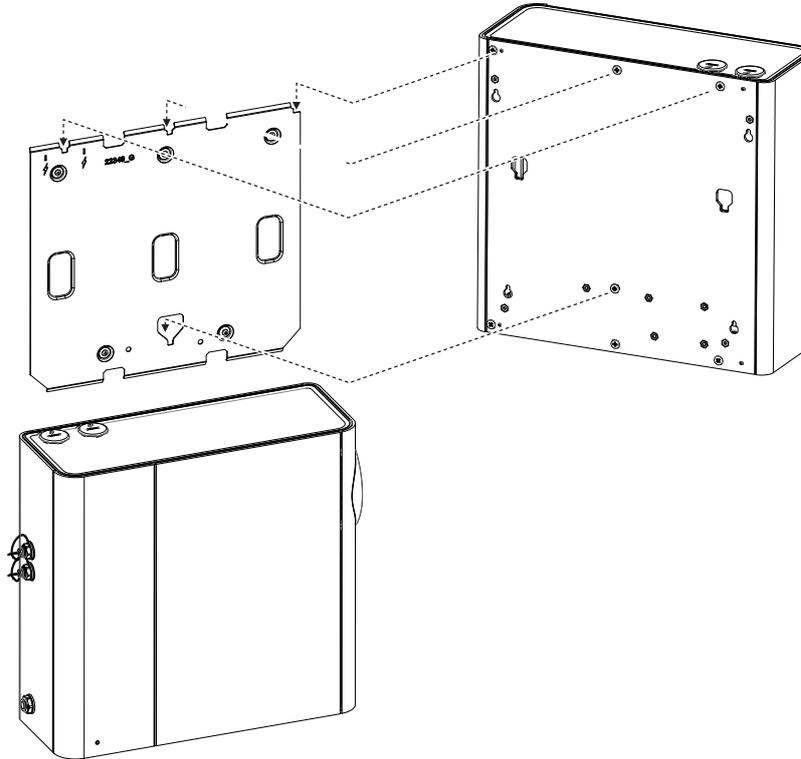

Figure A-28: Fit the Local Relay StaX to its mounting bracket
4. Fit the Local Relay StaX to its mounting bracket by aligning the four mounting buttons to their respective recesses and sliding the unit into place (Figure A-28). The top of the unit should be aligned with the top of the mounting bracket.